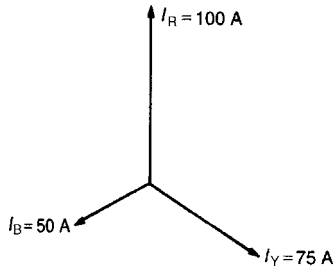

Figure 20.8
- (b) The three line currents are shown in the phasor diagram of Fig. 20.8. Since each load is resistive the currents are in phase with the phase voltages and are hence mutually displaced by  $120^\circ$ . The current in the neutral conductor is given by  $I_N = I_R + I_Y + I_B$  phasorially.